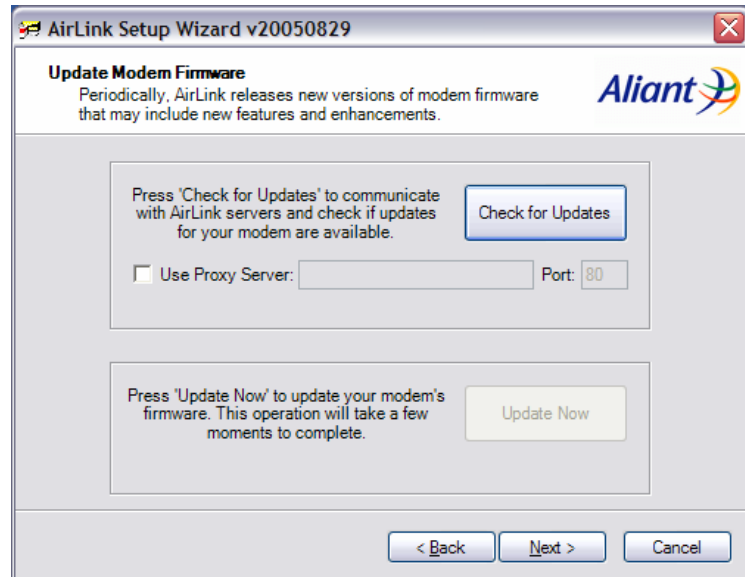

Figure 6 – Update Modem Firmware
- Follow the instructions as indicated on the Update Modem Firmware screen (Figure 6). If no updates are required, the "Update Now" button will not be activated. Click next to continue.